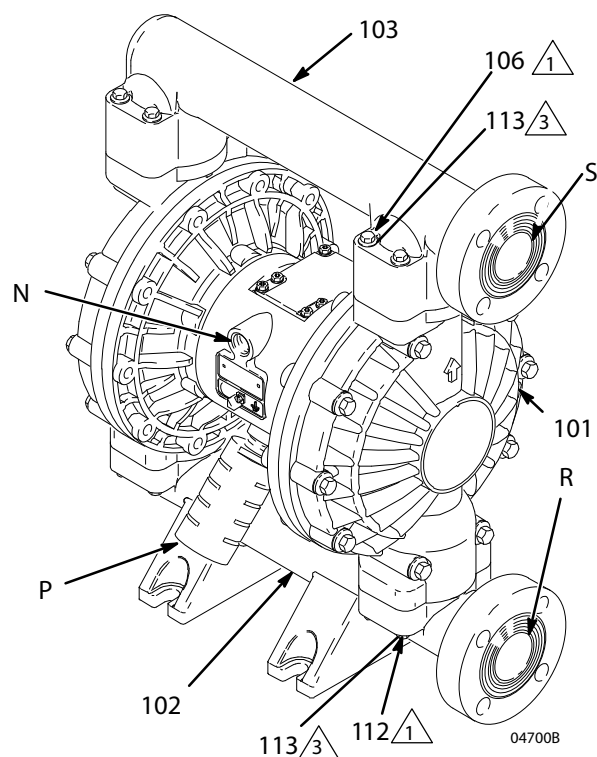

Fig. 4
The pump is shipped with the fluid inlet (R) and outlet (S) ports facing the same direction. See Fig. 4. To change the orientation of the inlet and/or outlet port:
1. Remove the screws (106 and 112) and washers (113) holding the inlet (102) and/or outlet (103) manifold to the covers (101).